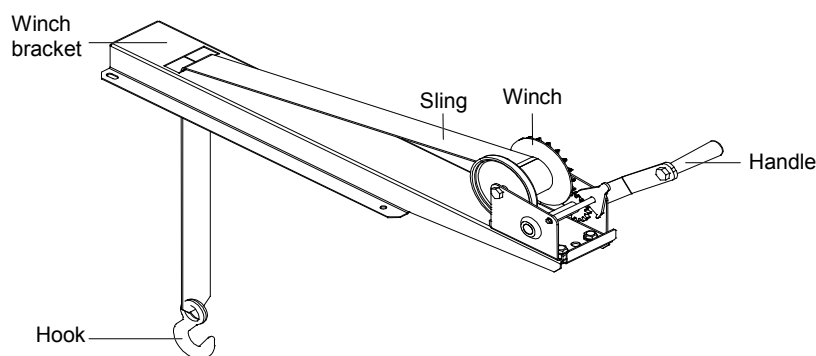
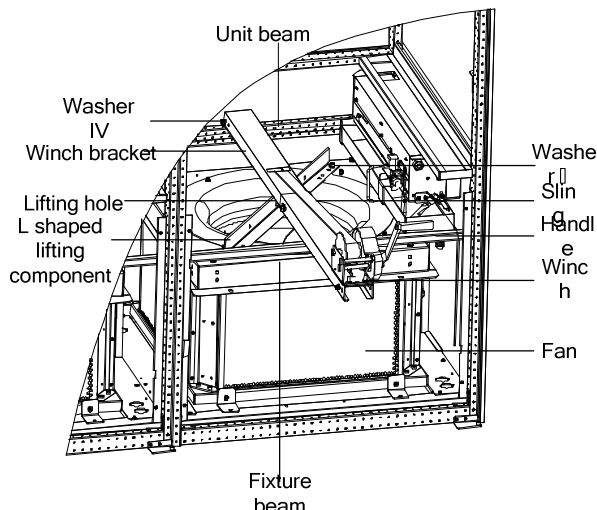

Figure 3-12 Fan elevator assembly (winch mode)
Figure 3-13 Installing winch bracket
You must lower all EC fans of the downflow unit before commissioning. The downflow unit has been equipped with a lowering tool when it is shipped. The lowering tool that uses winch is shown in Figure 3-12. It mainly includes a hand winch, a winch bracket, a hook, a sling, and a handle, and also an L shaped lifting component in Figure 3-13.
1. Install lift and lowering kit for fan: Open the unit maintenance cover, check the fixing bolts and washers II (see Figure 3-13, totally 2 PCS) of the L shaped lifting component to make sure that it is fixed properly, and then install the fixing bolts and washers IV (totally 4 PCS) of the winch bracket, as shown in Figure 3-13;
2. Turn the handle and use the hook of the winch to hook the middle round hole (see Figure 3-13) of the L shaped lifting component. Adjust the handle until the sling is completely tight.
6. Remove the hook from the L shaped lifting component, turn the handle clockwise, tidy the sling and remove the fixing bolts and washers IV (see Figure 3-13, totally 4 PCS) of the winch bracket, and take out the winch and the bracket assembly.
7. Remove the fixing bolts and washers II (see Figure 3-13, totally 2 PCS) of the L shaped lifting component, and take out the L shaped lifting component.